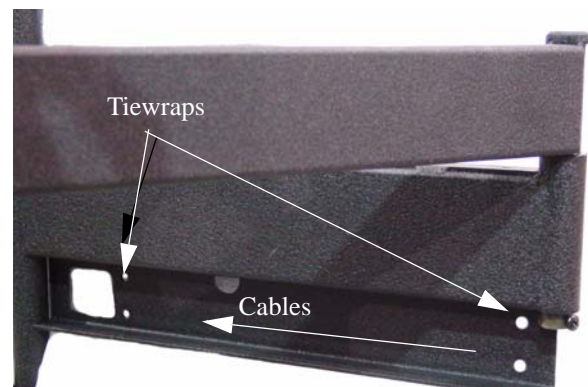

Figure 4. Cord Management
1. Route power/audio/video cables through the access hole (see Figure 4), allowing sufficient slack in cables for extension and avoiding pinch points, and secure cables using two clips and two nuts (provided).